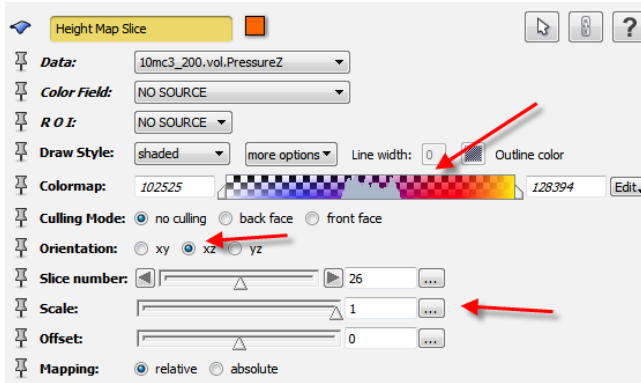

Figure 12.21: Modified parameters for *Height Map Slice* representing the pressure field in the experiment simulation are highlighted by red arrows.
- Configure the *Height Map Slice* as in Figure 12.21.